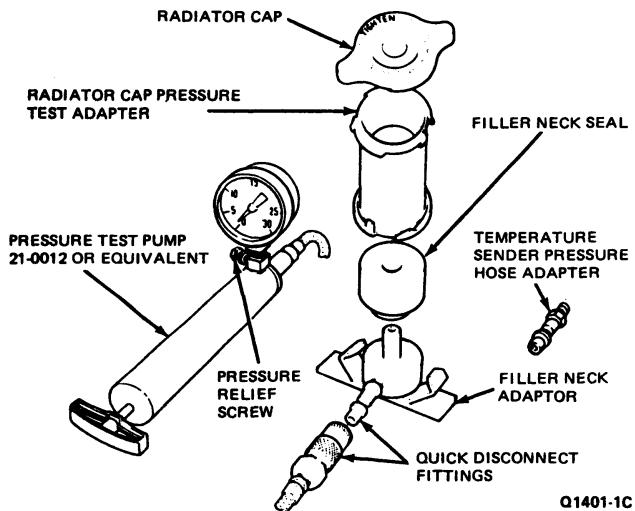

FIG. 2 Pressure Test Pump and Attachments
4. Install the adapter fitting from the pressure tester 21-0012 (or equivalent) (male thread on one end, and a hose connector on the other end to accommodate the tester hose) tightly into the intake manifold or cylinder head in place of the sending unit. (See Fig. 2.)
7. Attach the pressure pump and gauge (Fig. 2) to the adapter-fitting and pressurize the cooling system to the cap LOWER LIMIT as shown in the test chart.
Refer to Fig. 2.